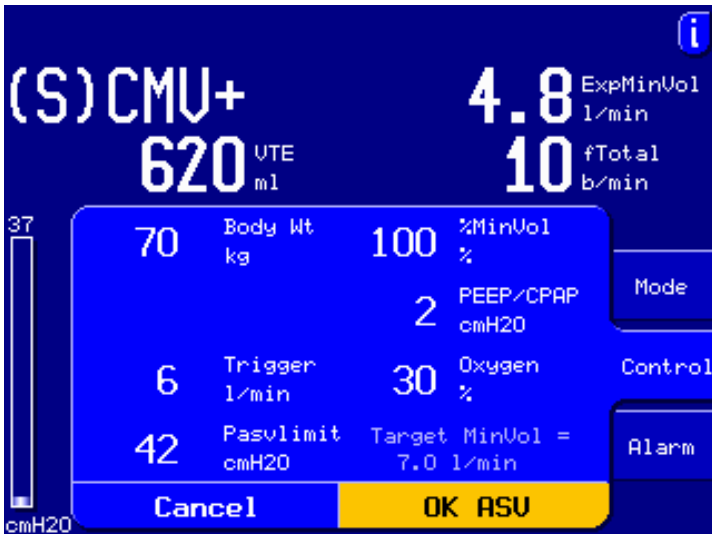

Figure 4-4. Control window 1 -- mode change to ASV
- In the ASV mode, **Target MinVol = ...** is displayed (Figure 4-4). This is the target minute volume to be delivered in ASV. Because this target minute volume depends on control settings, you will see this value change as you adjust the controls. See Appendix C for detailed information on ASV.
After you select a different mode, the first of two control windows automatically opens (Figure 4-4). You must review and confirm these settings, or the mode change will not be recognized.